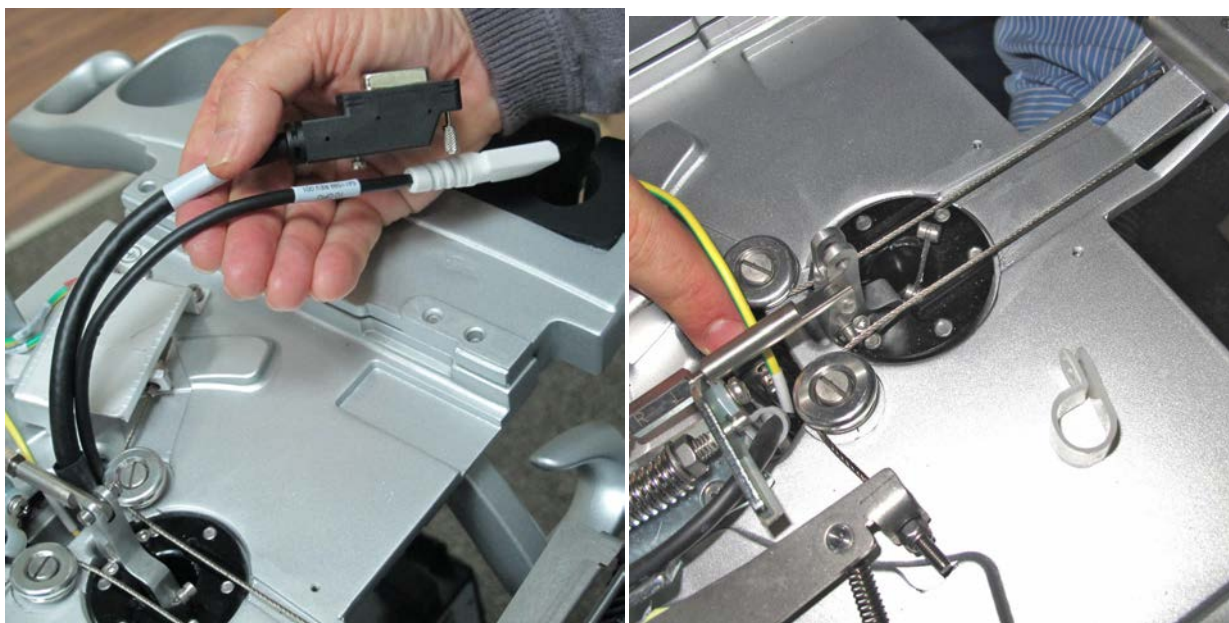

Figure 8-89 OPIO Platform Showing Cables Threaded Through Aperture
12.) Thread the cables through the OPIO platform aperture - see Figure 8-89 below.